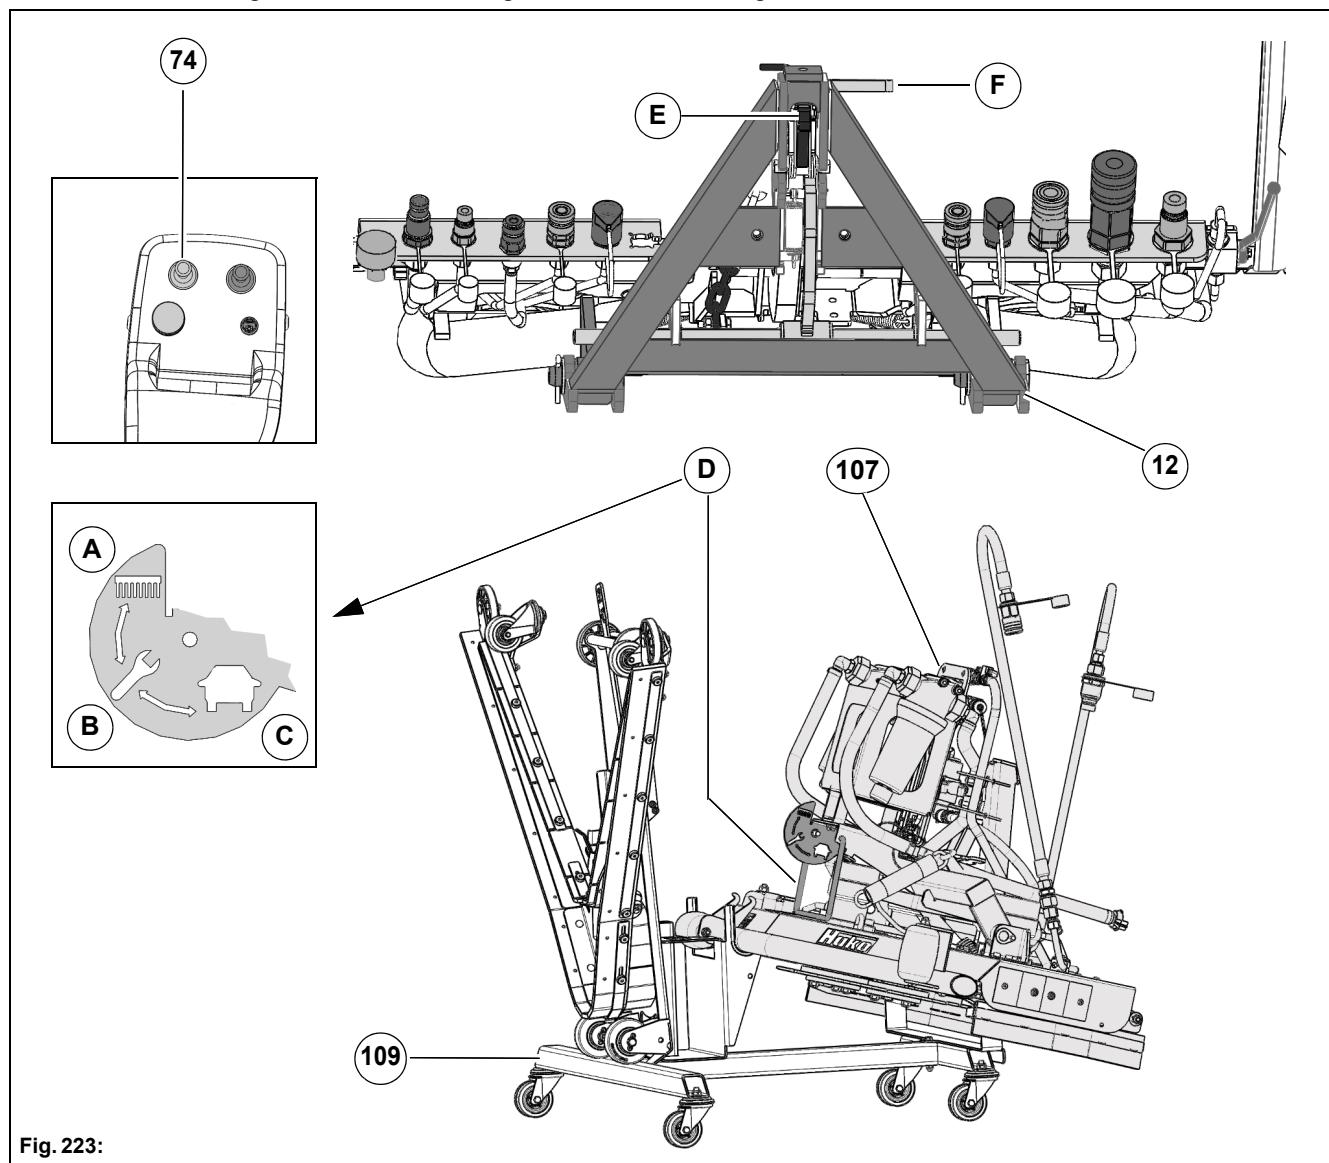

Fig. 223:
- 1 Unlock the locking hook **Fig. 223-E** and the locking rod **Fig. 223-F** on the front tool carrier **Fig. 223-12**. Position the front tool carrier to the holder of the scrubbing deck with the joystick **Fig. 223-74**.
- 2 Bring the locking bow **Fig. 223-D** into the working position.
- Working position = **Fig. 223-A** (brush symbol)
- Maintenance position = **Fig. 223-B** (wrench symbol)
- Transport position = **Fig. 223-C** (vehicle symbol)